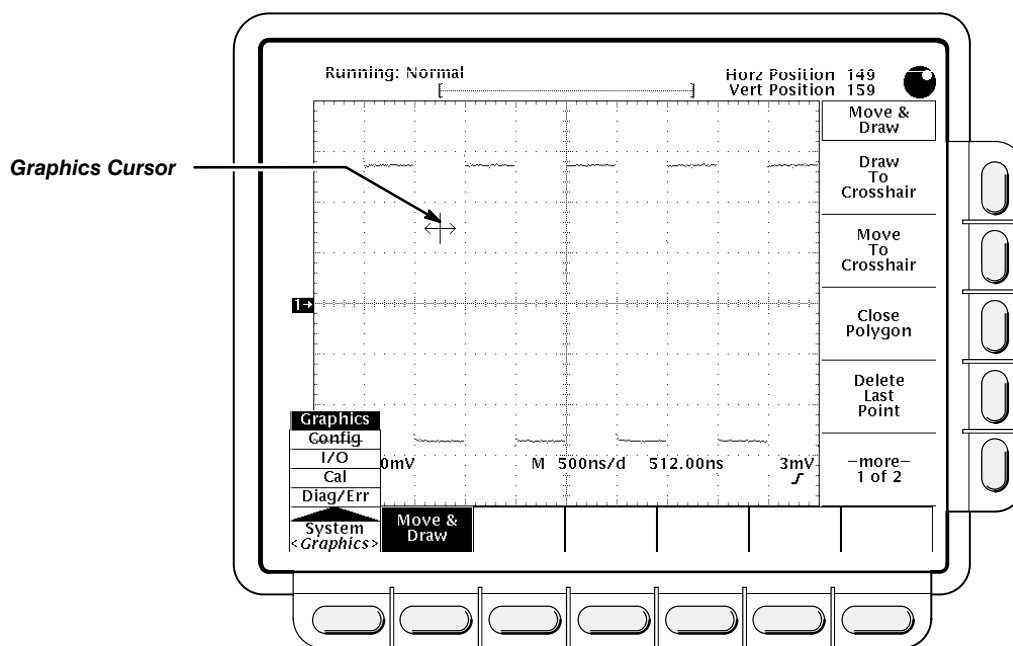

Figure 3-15: Graphics Menu
2. Press **System** (main) → **Graphics** (pop-up) (see Figure 3-15).